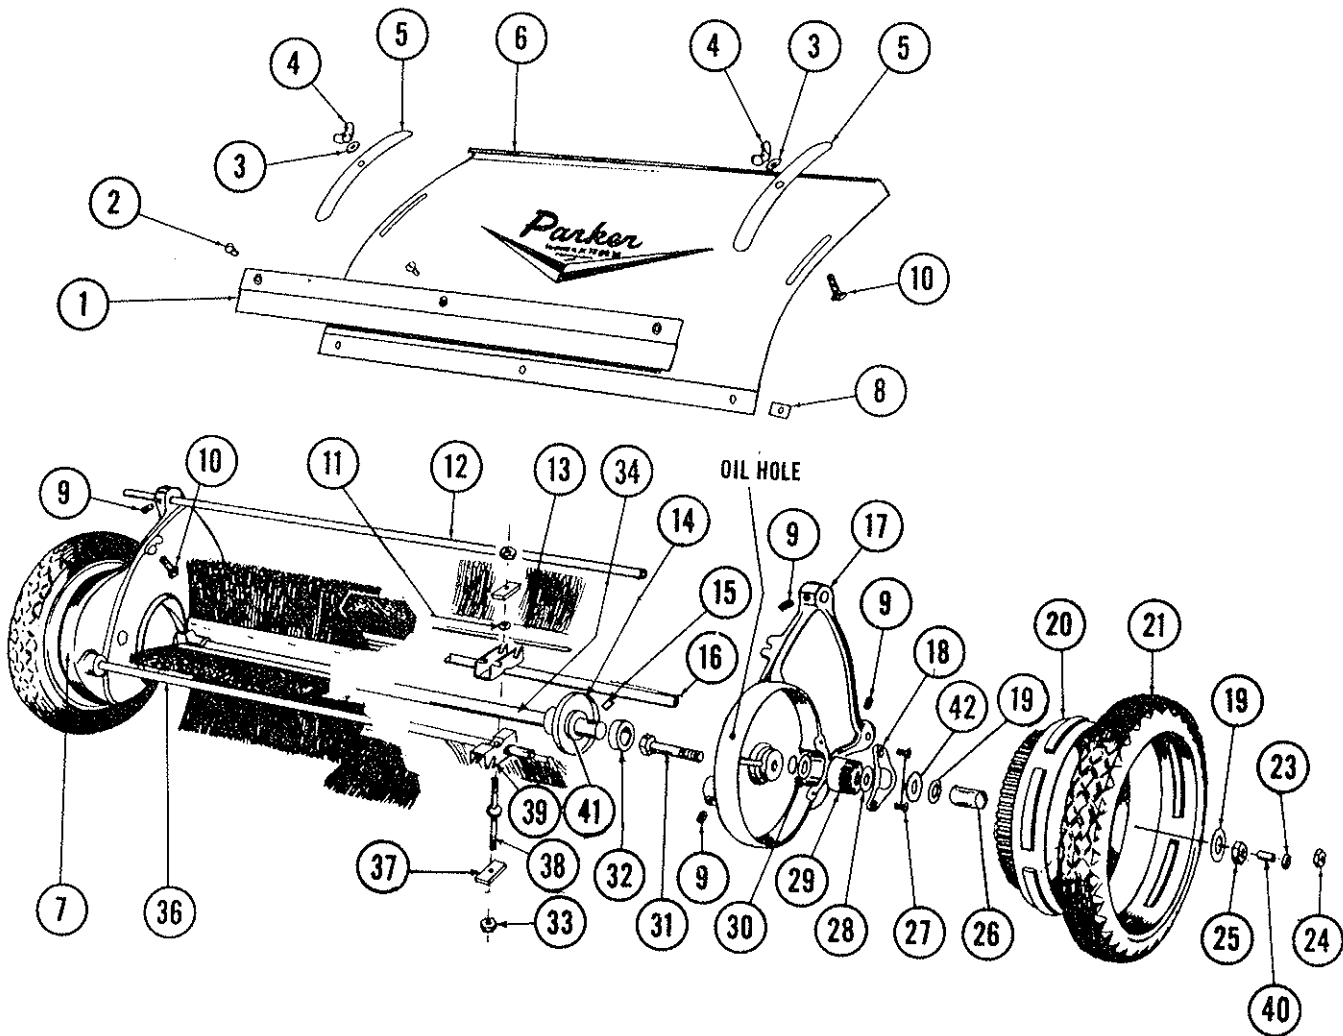
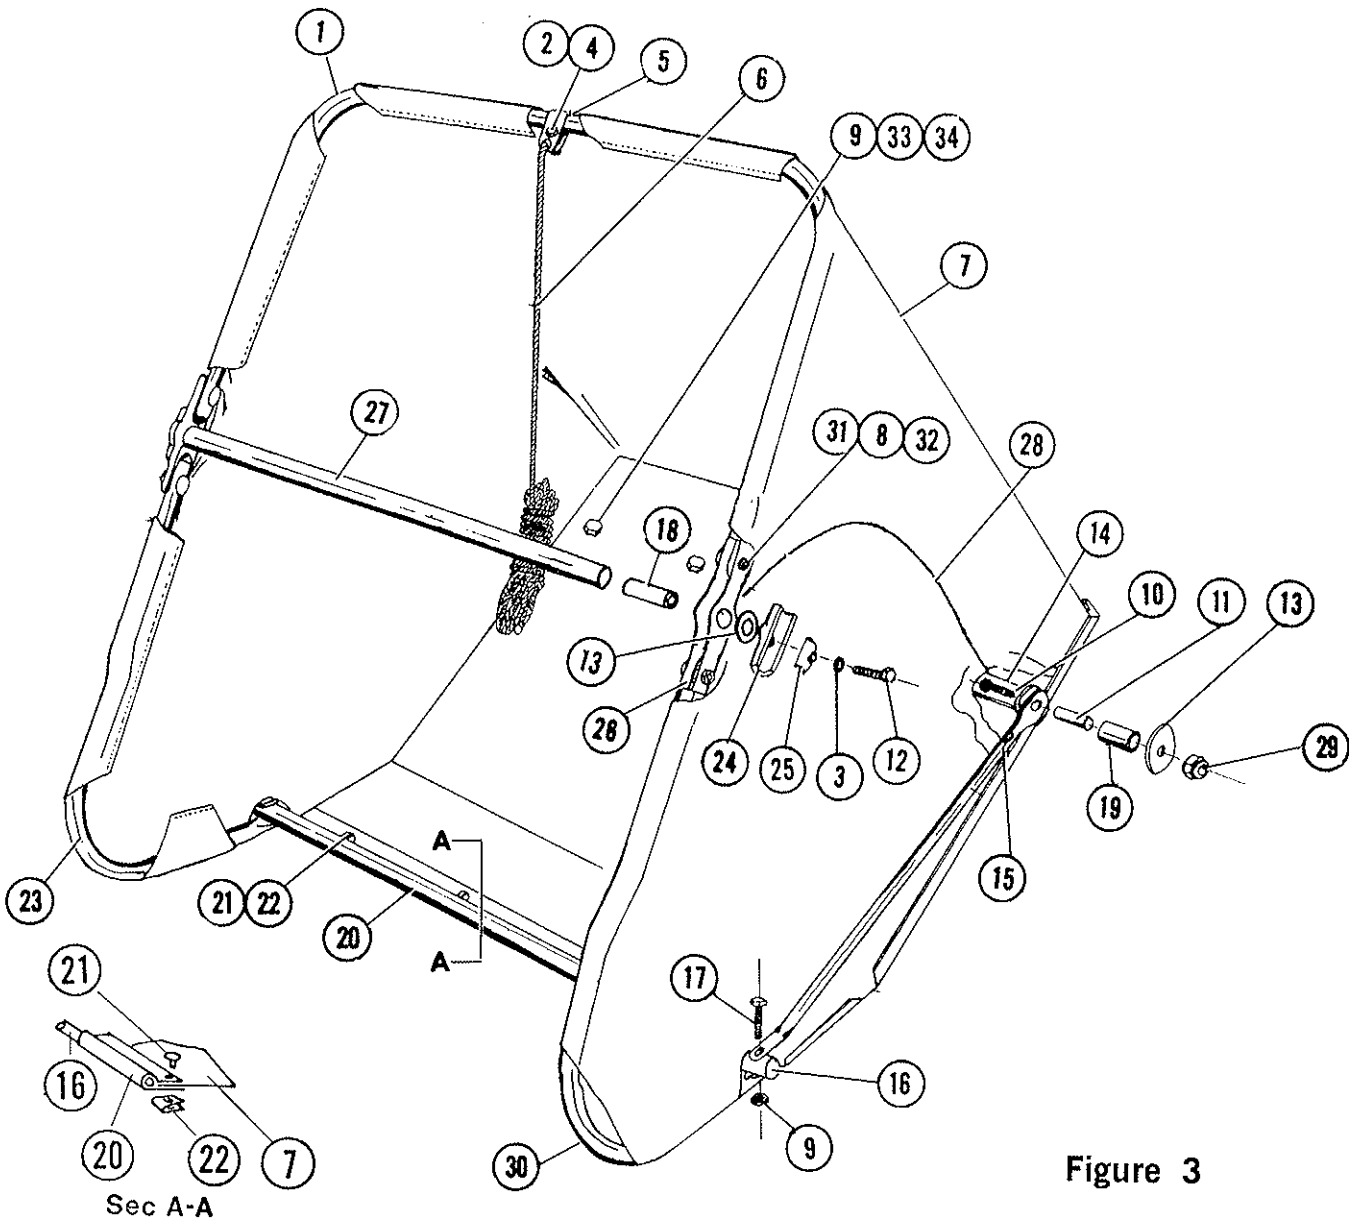

Figure 1
Figure 3
**HOOD HEIGHT ADJUSTMENT.** Loosen two wing nuts, Ref. No. 4, Fig. 1, and adjust hood, Ref. No. 6, to desired height. Retighten wing nuts.
**MAINTENANCE.** Place a few drops of oil into the oilers which are located on each side plate, Ref. Nos. 7 and 17 of Fig. 1, every time the machine is used. The wheels and casters should be lubricated at the same time. A drop or two of oil should also be applied occasionally to the basket pivot block, Ref. No. 26, Fig. 3.
2. Remove cap screws & clamps Ref. No. 11 & 33 Fig. 1 which hold the brush strips to the reel shaft brackets. Reverse and replace the brush strip and clamps, then retighten the cap screws.
Place a few drops of oil in the oil holes located in the Hub of each Wheel and in each Side Plate, Ref. No. 7 & 17 of Fig. 1, also in the Swivel Bearings and Axle of the Casters every time the machine is used. A drop or two of oil should also be applied occasionally to the Basket Pivot Block, Ref. No. 26, Fig. 3.
## PARTS LIST Figure 1
## PARTS LIST Figure 3